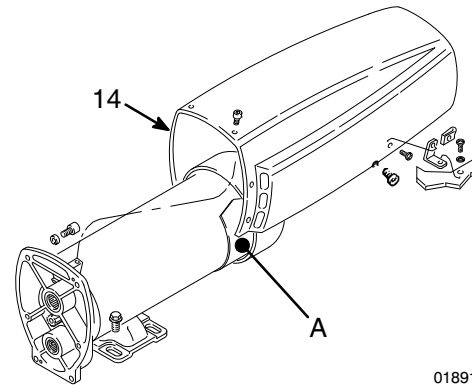

Fig. 8
1. Remove the motor cover (14) and both inspection covers (A). See Fig 8.